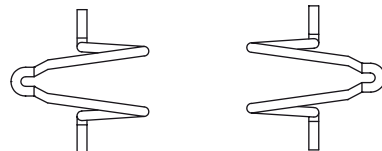

Fig. 45
- Pair of connector retention clips HZZ01209-G; see fig. 45